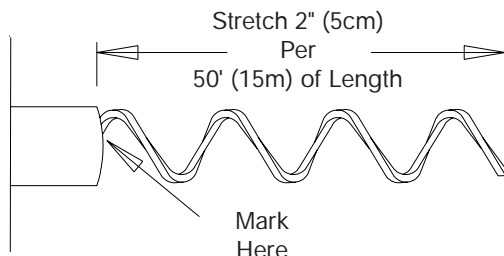

Figure 20: Stretching the Auger.
7. Draw the auger out of the tubing as far as required. Measure the length between the mark and the unloader inlet. Mark the auger again at the unloader inlet when properly stretched (see Figure 20). Stretching the auger too far will cause premature wear at the inside bends of the PVC tubing. Stretching the auger not far enough will cause premature wear at the outside bends of the PVC tubing.